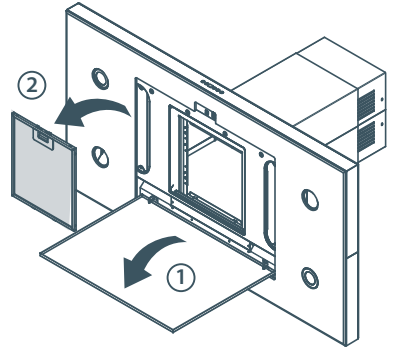

Fig.2 Removing the aluminium mesh filter
- 3 Unclick the magnetic stainless steel cover plate and gently lower it down (Fig.2).
- 3 Unclick the front edge of the magnetic stainless steel cover plate and gently lower it down (Fig.2).